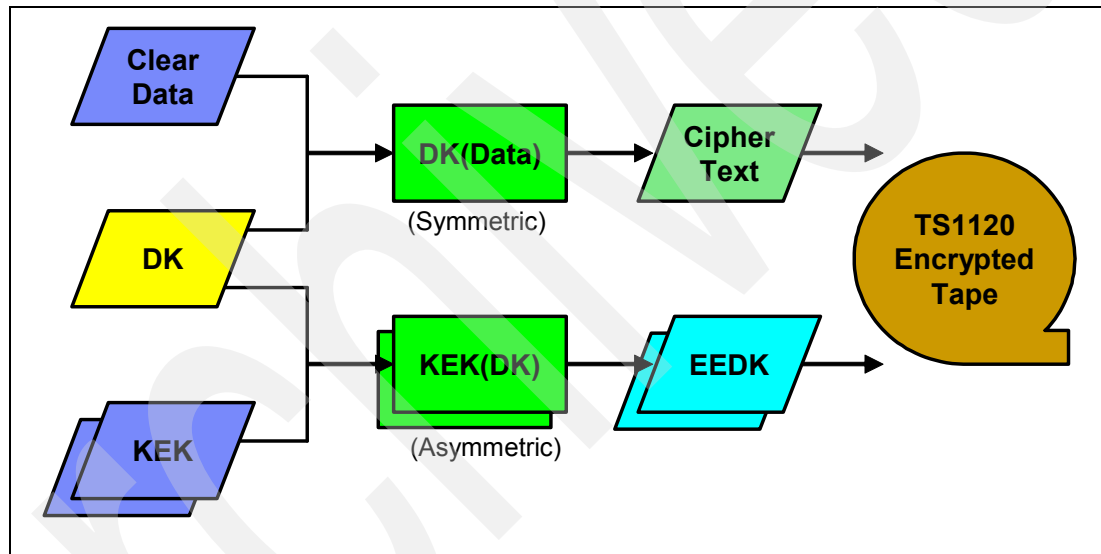

Figure 7-3 TS1120 two-layer encryption using symmetric and asymmetric encryption algorithms
Because the encrypted DK is not stored in the EKM keystore but externally in the 3592 tape cartridge memory (CM) and in several additional locations on the tape media, it is referred to as *externally encrypted data key* (EEDK). The two layered encryption method used with TS1120 is shown in Figure 7-3.